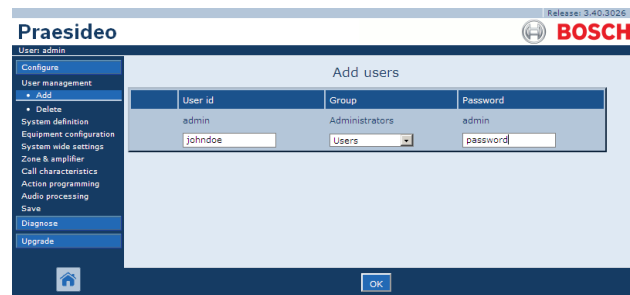

figure 41.3: Add user, step 2 - 4
- 2 Enter the user name for the new user in the *User id* field. It can contain up to 16 characters. For example, *johndoe* (see figure 41.3).
- 4 Enter the password for the new user in the *Password* field. It can contain up to 16 characters. For example, *password* (see figure 41.3).